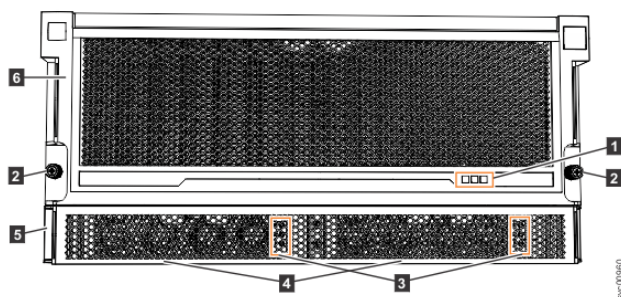
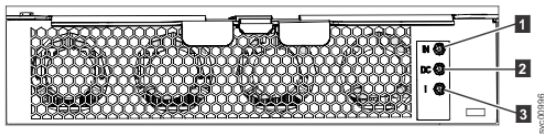

Figure 202. LEDs on the front of the expansion enclosure
Figure 203. LEDs on the front of a power supply unit
As Figure 202 on page 228 shows, the front of the 5U expansion enclosure contains LEDs for the display panel (1) and for each of the power supply units (3).
The 5U expansion enclosure contains two PSUs (4) in Figure 202 on page 228 that are accessible from the front of the enclosure. Each PSU has its own set of LEDs, as shown in Figure 203 on page 229.